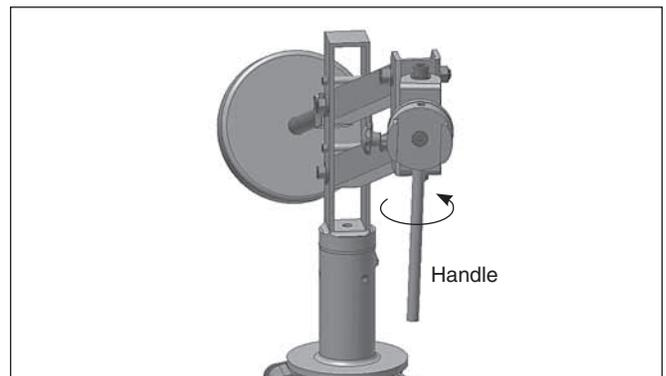

Fig. 1.9.
1.9. Insert the handle (part 10) where shown in **Fig. 1.9** and thread it in until tight.